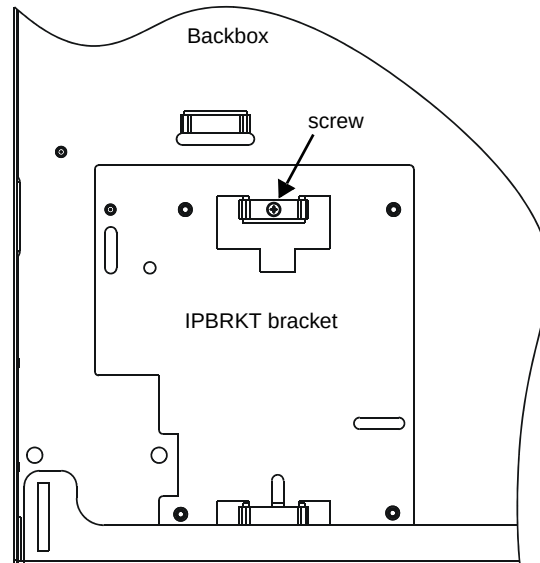

Figure 2 IPBRKT Installation
2. Secure the IPBRKT bracket to the backbox by installing the supplied screw into the top tab as illustrated in Figure 2. The screw will feed through hole in emboss and self-thread into bracket hole.